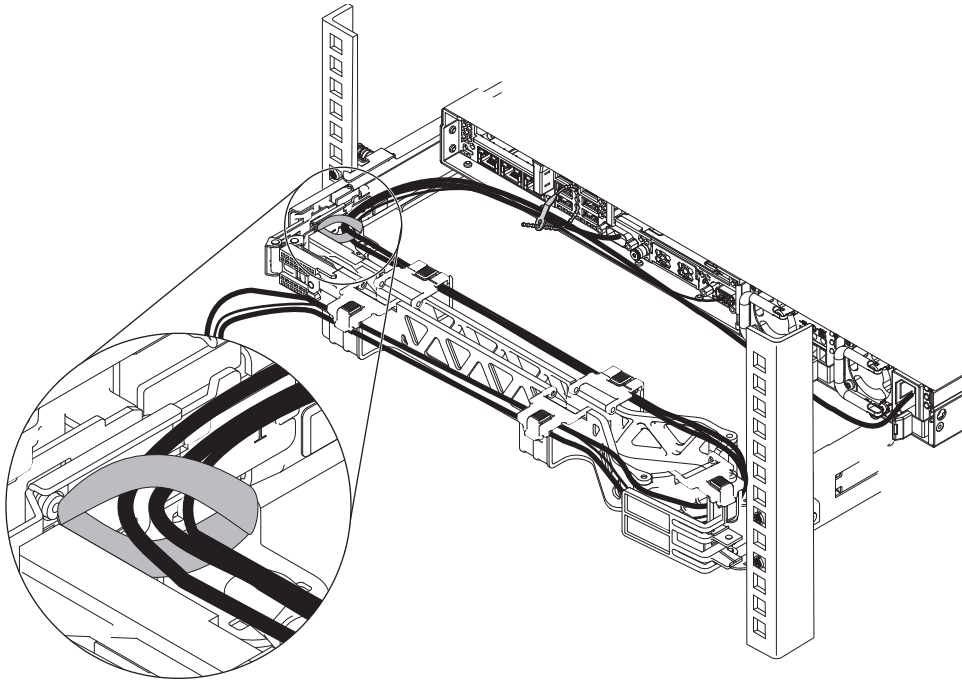

Figure 8. Detaching the hook-and-loop fastener strap
3. Detach the hook-and-loop fastener strap, as shown in Figure 8 on page 17.